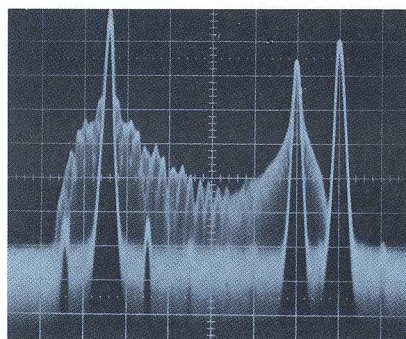
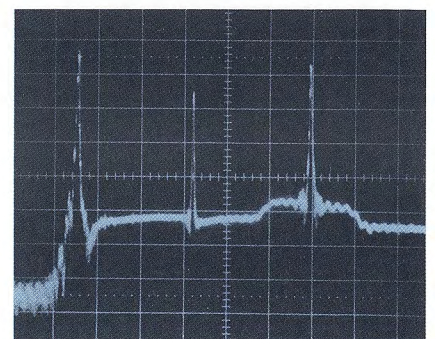

Fig. 4 Result of intermodulation measurement using three-signal method (1 MHz/div; 10 dB/div)
Fig. 5 Intermodulation products displayed as swept curve (1 MHz/div; 10 dB/div)
**Analysis mode** The LDS may also be used as an analyzer in all fields of operation. In the example shown in Fig. 4, it is difficult to evaluate the intermodulation product at  $f_{\text{sound}} - f_{\text{SB}} + f_{\text{vision}}$  because of the high density of the line spectrum. Fig. 5 shows a particularly revealing test result, the intermodulation products being displayed in the form of a swept curve as a function of frequency, with the synthesizer tuned to the sound carrier.